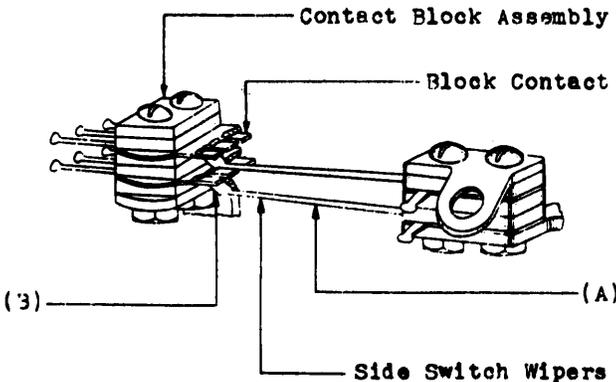

Fig. 2 - Alignment of Block Contacts
2.11 Wiper Spring Tension - Fig. 2 (A) -The wiper springs shall have enough tension so that when pressure is applied midway between the front and back of the wiper to cause it to move approximately 1/16" the spring will just leave its contact. Gauge by eye.
2.12 Wiper Alignment in the Second Position Fig. 2 (B) - When the side switch is in the second position and the private magnet is at normal, the wiper tips shall rest a little to the left of the center of the bank contacts. When the private magnet is energized the wiper tips shall rest a little to the right of the center of the bank contacts. Gauge by eye.